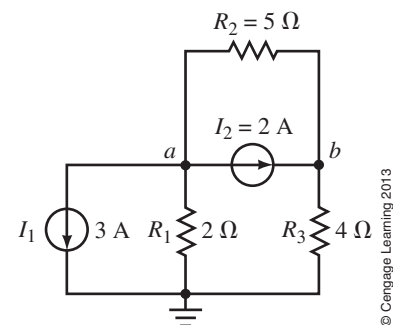

FIGURE 8–88
36. Repeat Problem 34 for the circuit of Figure 8–91.